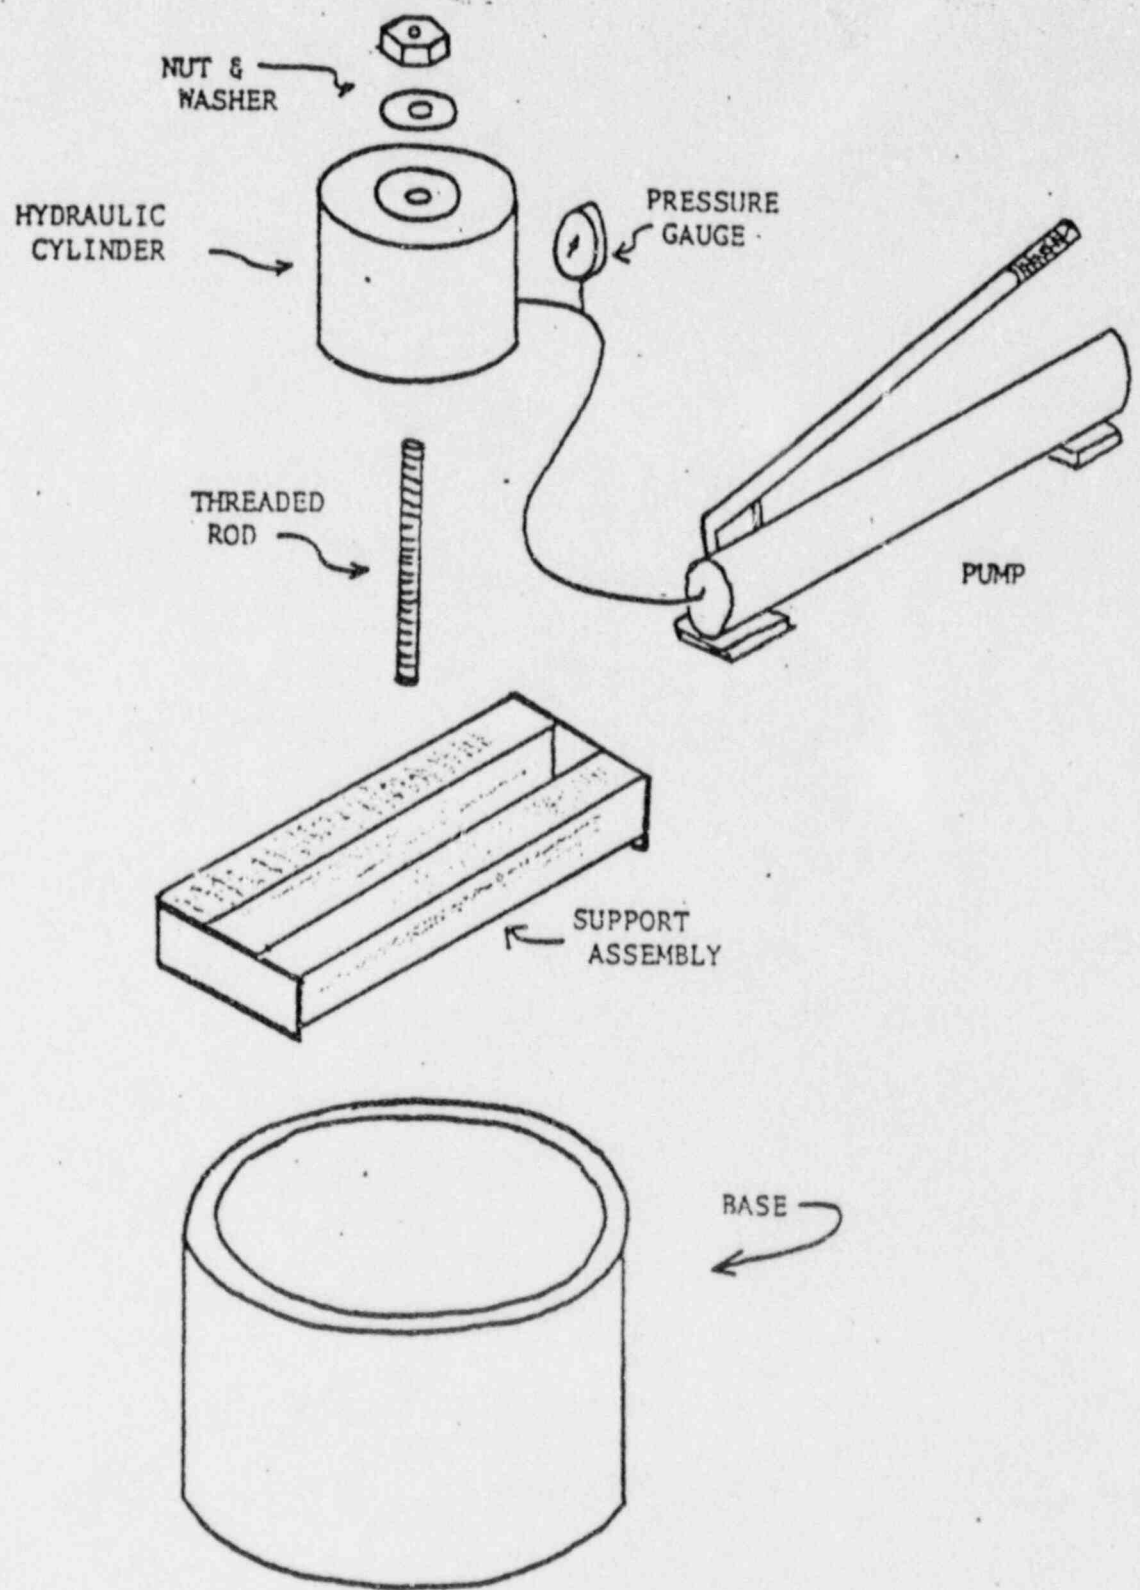

FIGURE 1 - PULL TEST FIXTURE
1. Figure 1 - Pull Test Fixture